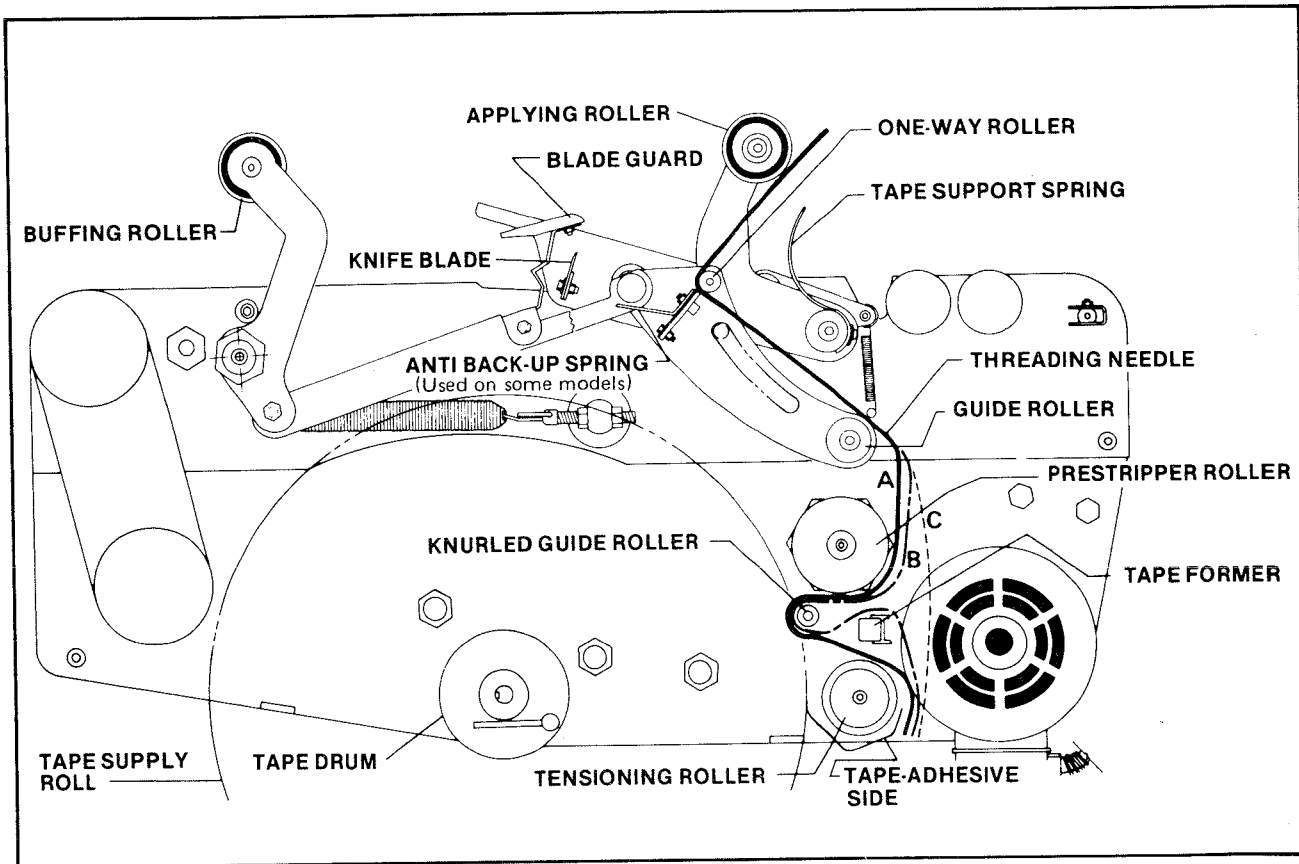
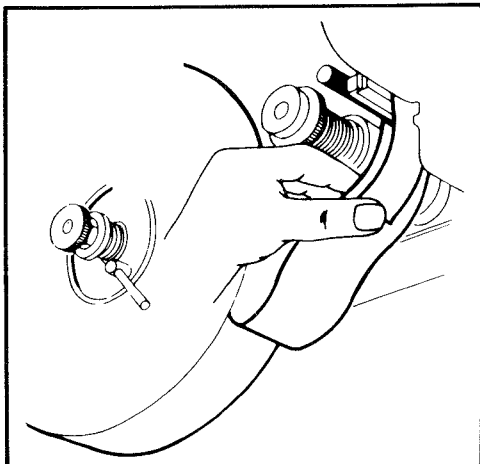

FIGURE 5 TAPE THREADING DIAGRAM - BOTTOM TAPING HEAD - LEFT SIDE VIEW
FIGURE 5C
- 1) With the temporary threading needle already in position, as shown in figure 5, follow the tape loading procedure from figure 5C to complete the tape threading with this exception; thread tape around tensioning roller, former, knurled guide roller and prestripper roller in one of three paths depending on the type tape and application.
Thread lower end of needle around guide roller as shown in Figure 5 and through path A, B, or C.
Figure 5C - Place tape roll fully onto tape drum to dispense tape toward tensioning roller adhesive side down. Turn eccentric roller lever outward to secure tape roll. Adhere tape lead end to lower end of threading needle as shown.